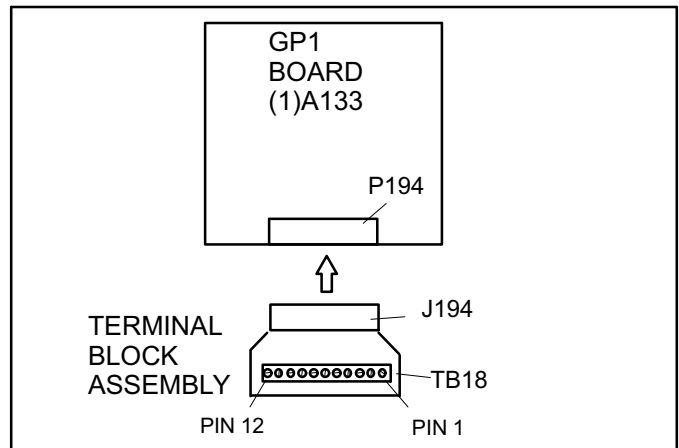

Figure 3. Connect GP1 Board to Terminal Block
4. Plug P194 connector on GP1 board into J194 on terminal block assembly. See figure 3.